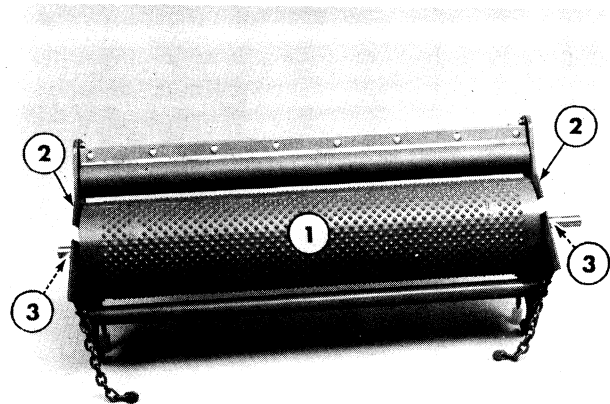

Figure 9-54
11. Remove lock collar, 1, on each side of the stripper roll. Remove the three M10 x 30 cap screws and washers, 2, on each side of the sledge frame assembly that retain the bearings to the sledge frame. Roll, 1, Figure 9-54, can now be removed from the sledge frame.
3. Center roll, 1, Figure 9-54, between sledge frame assembly, 2. Tighten the lock collars at 3.